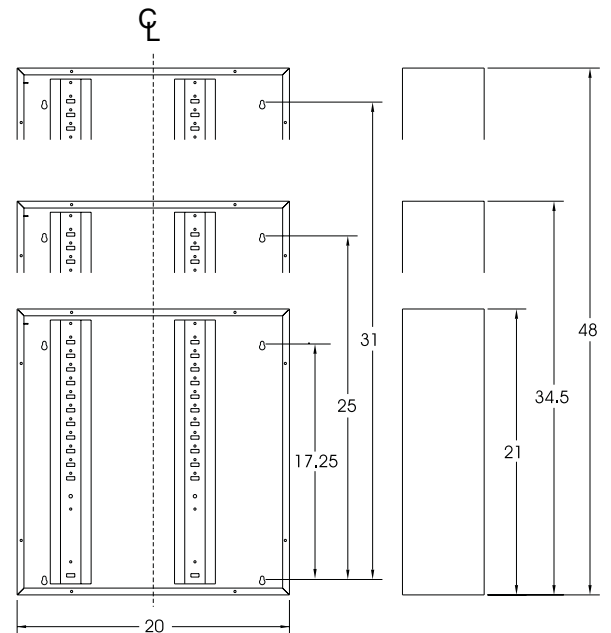

Figure 2 - Cabinet Dimensions (inches)
4. Cabinet Physical Specifications — See Figure 2.
2. **Mount Cabinet** — Mount the cabinet to structural members as required using the four holes that have been provided in the back of the cabinet. Refer to *Figure 2* for dimensions.